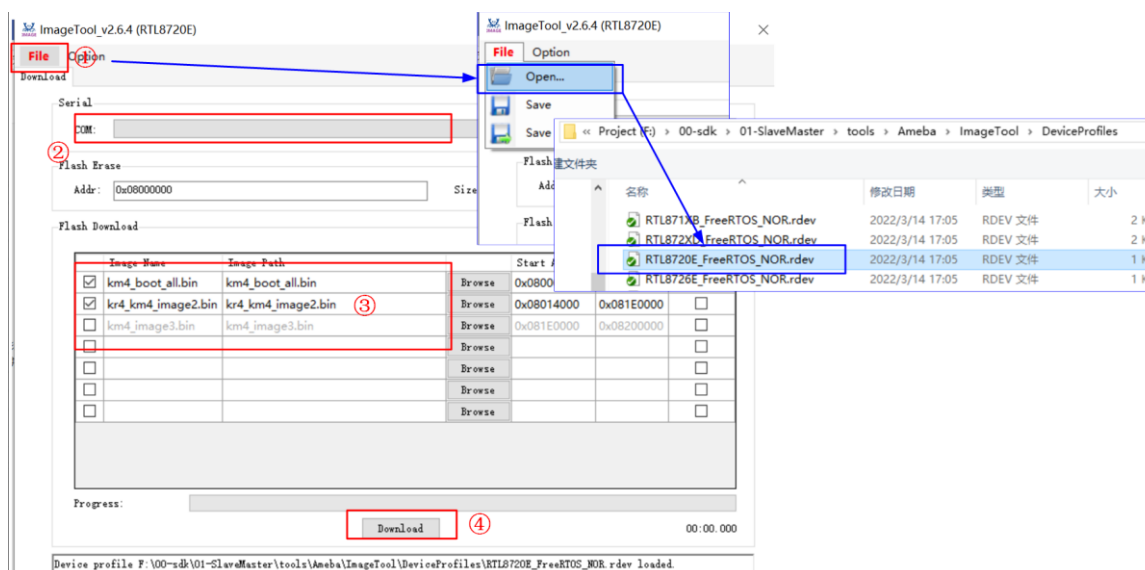

Figure 4-3 ImageTool UI
- (1) Connect the EVB to PC through the USB cable, power on the chip.
- (2) Keep pressing the UART download button, press and release the CHIP_EN button to enter into Flash download mode.
- (3) Select the corresponding serial port in the Image Tool provided by REALTEK.
- (4) Click Chip Select (in red) menu of Image Tool and select RTL8720E_FreeRTOS_NOR.rdev configuration file.
- (5) Set the transmission baud rate, and 1.5Mbps is recommended.
- (6) Select the storage directory of the compiled program and set the address of each image according to Figure 4-3.
- (7) Click the download button to start downloading the image.